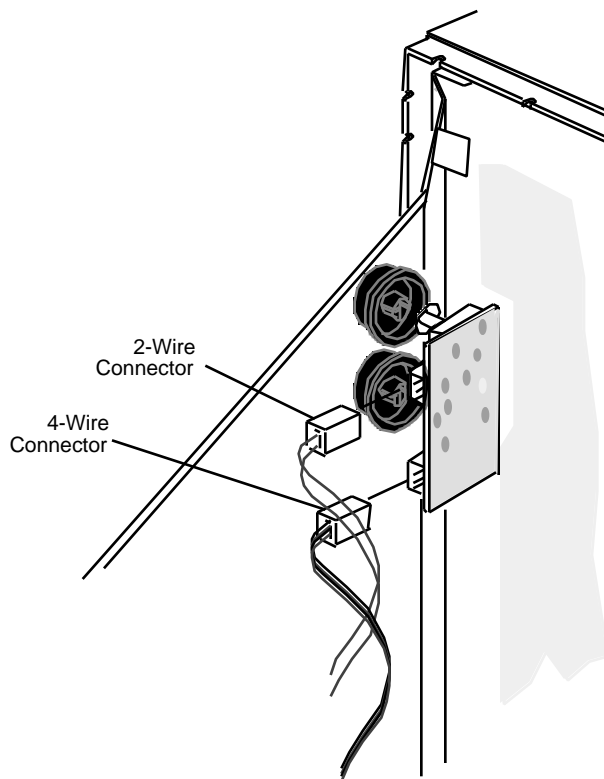

FIGURE 10
3. Reconnect the following connectors to the contrast brightness board (Figure 10) .